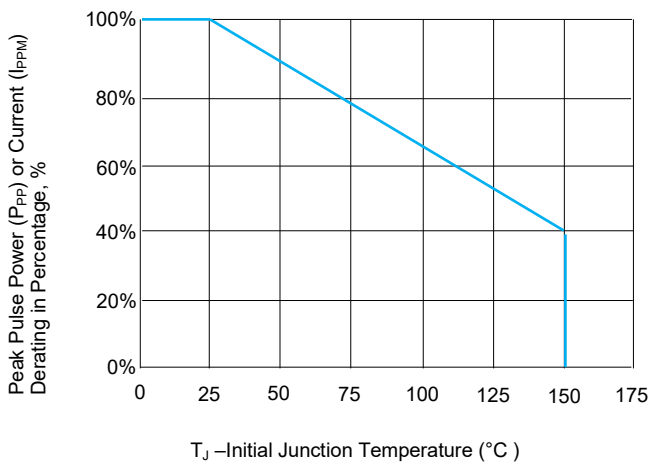
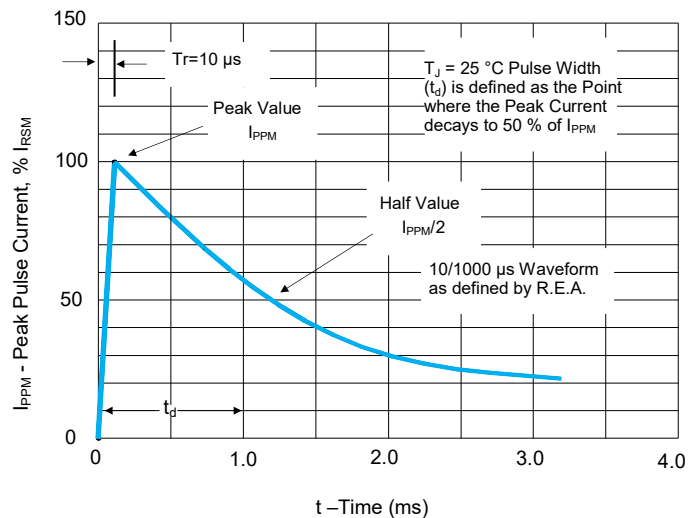

FIGURE 3 Peak Pulse Power Derating Curve
FIGURE 4 Pulse Waveform - 10/1000 μs
1. Non-repetitive current pulse, per Fig. 4 and derated above T_J(initial)=25 °C per Fig. 3.